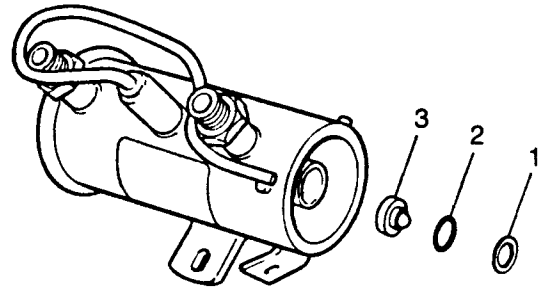

Fig C5.13
- (6) Refer to Fig C5.13. Remove the plain washer (1), the rubber seal (2) and the one-way valve (3).